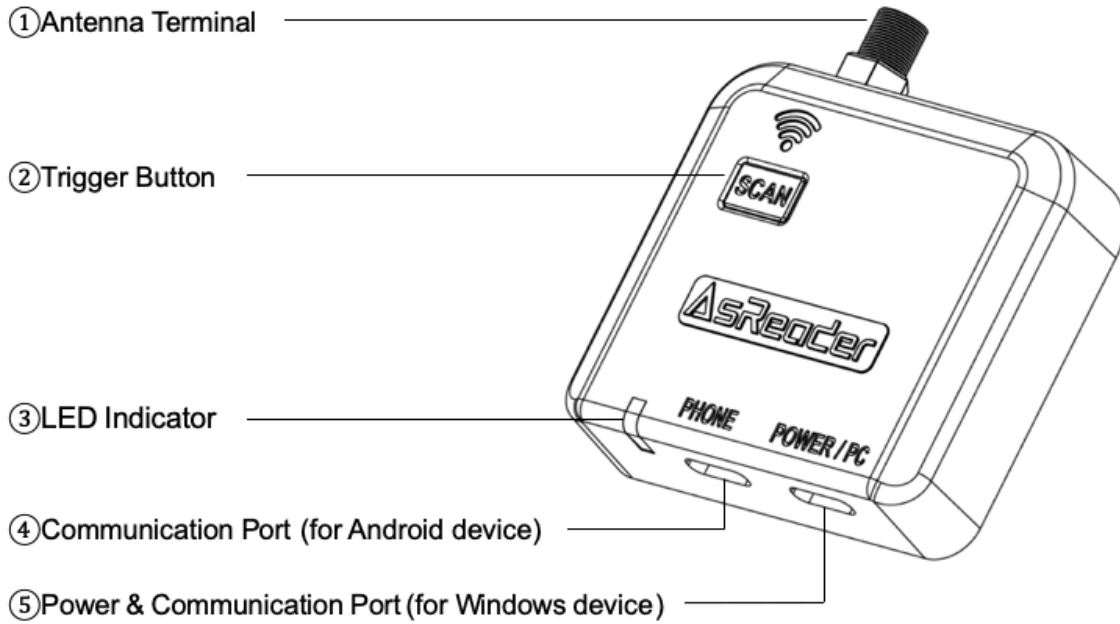

FIG. 1-3-1 Appearance (Front)
Please connect the RF cable of an antenna to the Antenna Terminal (see FIG. 1-3-1①) of the ASR-P37U.
Use a USB Type-C data cable to connect the ASR-P37U to a power adapter via the Power & Communication Port (see FIG. 1-3-1\(5\)). The LED Indicator flashes slowly when power on is successful (see FIG. 1-3-1\(3\)) and there will be two buzzing prompts.
With the ASR-P37U powered on, put RFID tags close to the Antenna attached to it(see FIG. 1-3-1\(1\)). Then, press the “SCAN” trigger button (see FIG. 1-3-1\(2\)). The blue light flashes quickly and the data will be entered at the cursor on the screen of the connected device. Press the trigger button again to stop reading.
3. Connect the Android device and the ASR-P37U with USB Type-C to USB Type-C data cable via the Communication Port (see FIG. 1-3-1\(4\)). The LED Indicator stays ON when the connection is successful.
4. When using while charging the Android device, please connect a USB hub to the Power & Communication Port (see FIG. 1-3-1⑤) of the ASR-P37U using the USB Type-C to Type-C data cable, and then connect the USB hub to the Android device. Then, connect the power adapter to the USB Hub to supply power to the Android device.